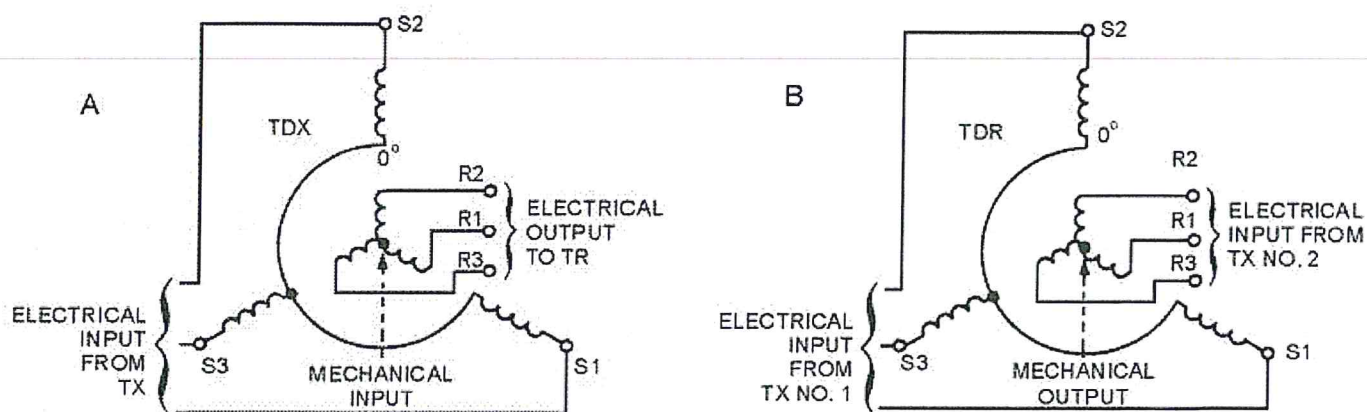

Figure 3-13. The Torque Differential Transmitter receives two inputs and provides one output.
Figure 3-13 (A) depicts a torque differential transmitter. Here the magnetic field created by the currents in the stator will position the rotor shaft of the TDX to correspond to the magnetic field of the transmitter providing the input signal. However, if the rotor position changes in response to a mechanical input, the voltage induced in the windings will also change. Therefore, the output voltage varies as a result of either a change in the input stator voltage, or a change in the mechanical input to the rotor.
Figure 3-13 (B) depicts a Torque Differential Receiver (TDR). A TDR is similar to a TDX, except that a TDR accepts two electrical inputs, one on the stator and one on the rotor, and produces one mechanical angular output, which produces torque on the TDR shaft. Both